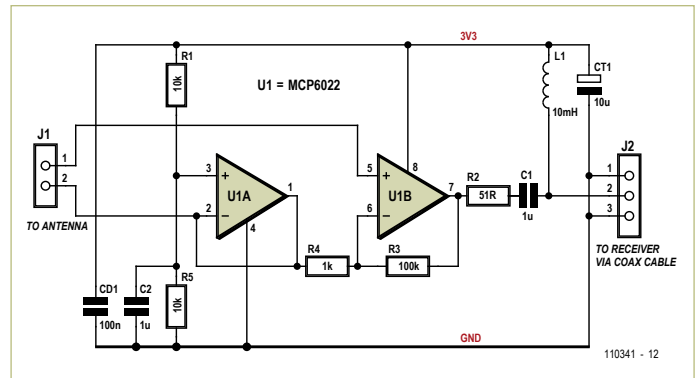
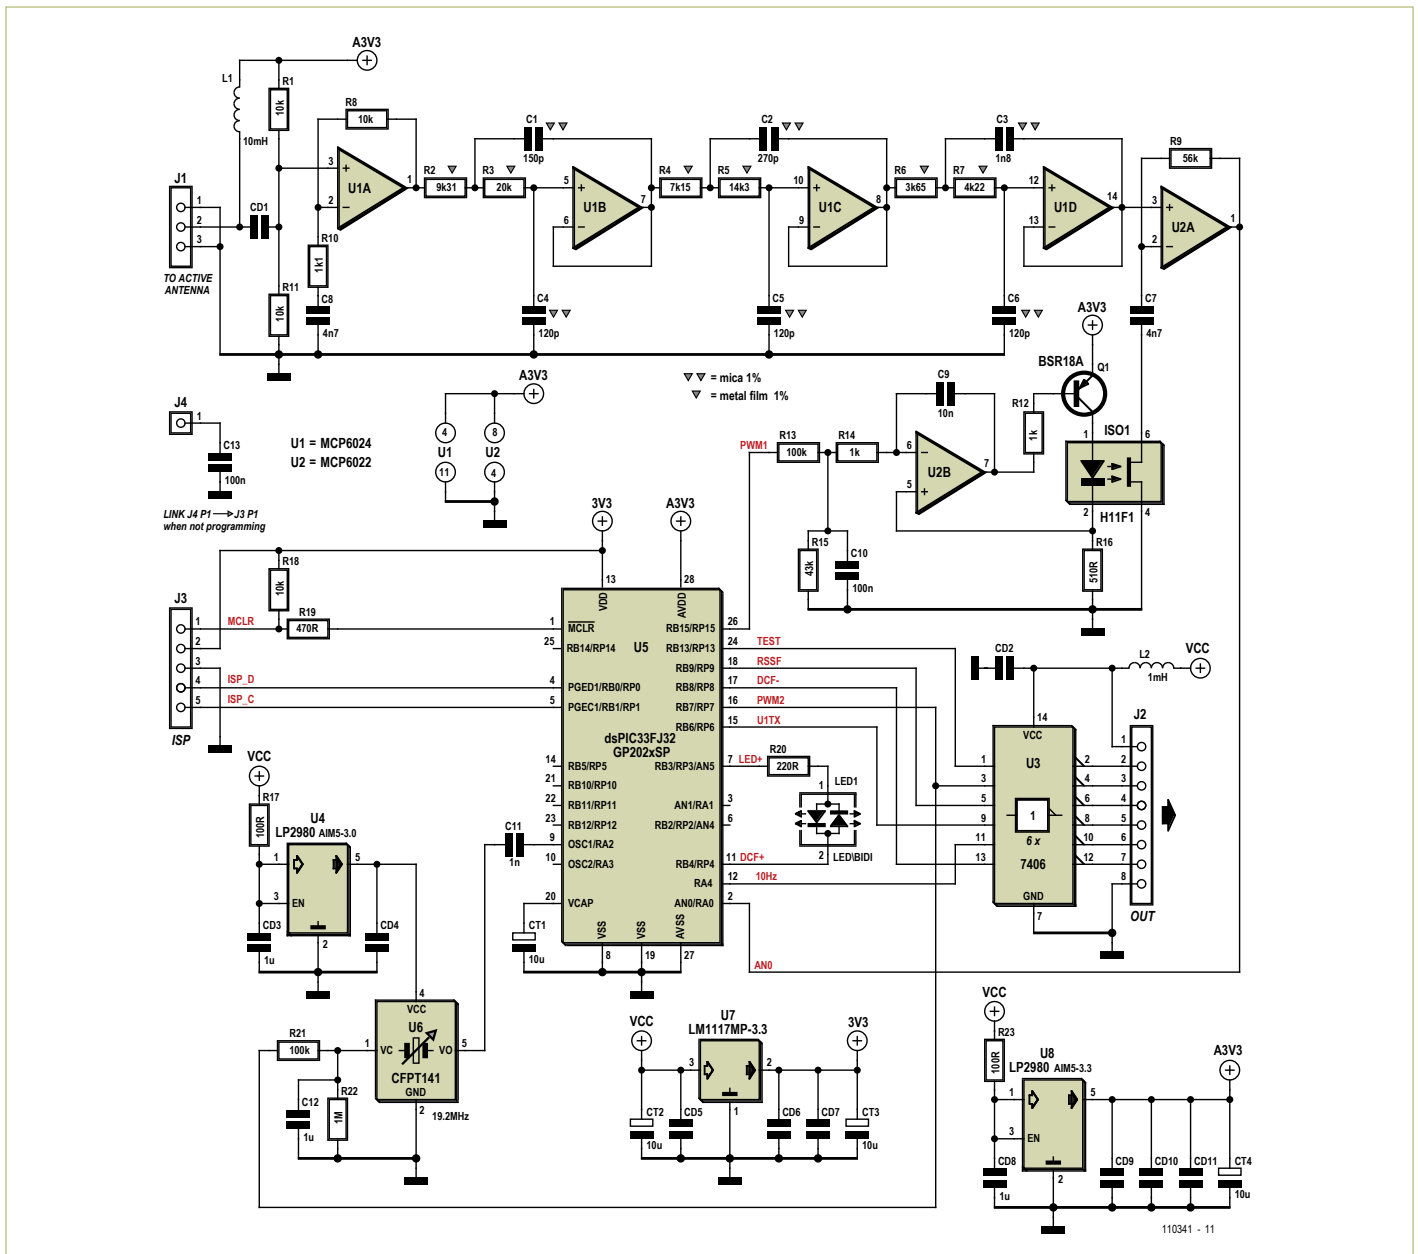

Figure 1. DCF77 antenna preamplifier circuit. The 3.3 V supply voltage arrives via the download coax cable.
Figure 2. The circuit diagram of the DCF signal processor is a mix of analogue electronics interfaced to a microcontroller.
77.5 kHz. This is combined with an op-amp gain stage shown in **Figure 1** to form the line-powered active antenna capable of driving a reasonable length of coax cable to the receiver board. Looking now at the receiver/processor schematic in **Figure 2**, the first op-amp stage provides some more AC gain which drives into three further stages comprising a 6th order low-pass anti-aliasing filter with 1 dB flat pass-band to 78 KHz and -50dB stop-band from 232.5 kHz. Note that the signal is subsequently sampled at 310 kHz ( $f_s = 4f_c$ ) for input to a DSP notch filter at 77.5 kHz so the first poten-